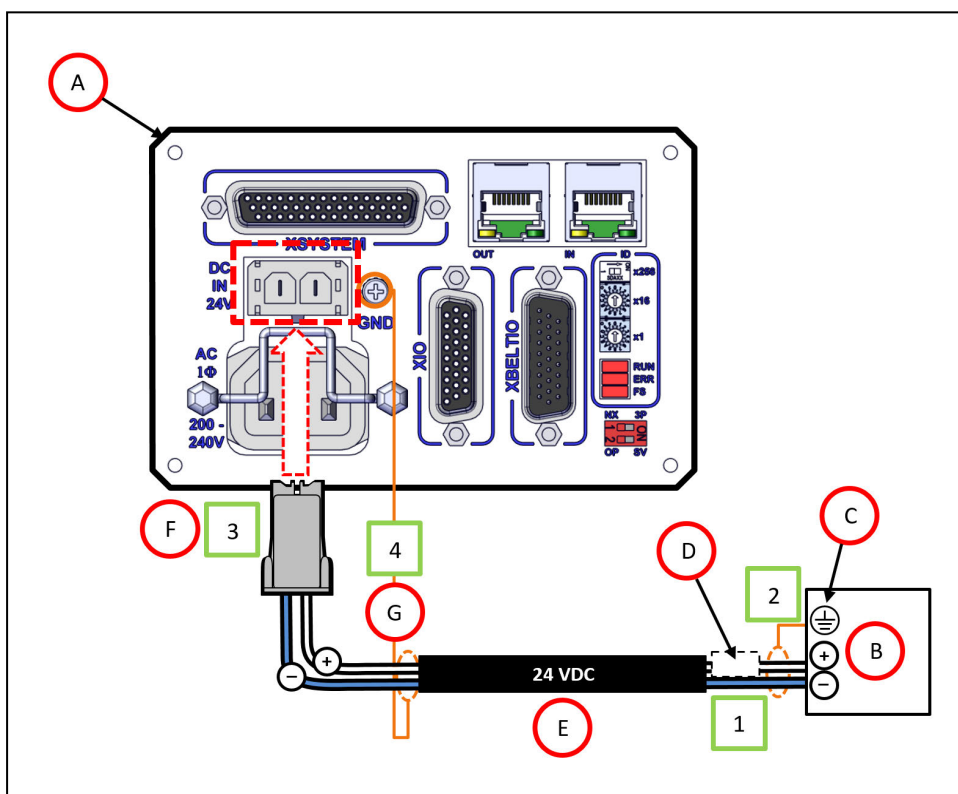

Figure 4-10. User-Supplied 24 VDC Cable, Power Supply
The 24 VDC output must be less than 300 W peak or 8 Amp (max) in-line circuit protection must be provided for each connected robot. Refer to (D) in Figure 4-10. .
2. Connect the cable shield (D) to frame ground on the power supply (C).
3. Plug the mating connector end of the 24 VDC cable (F) into the 24 VDC connector on the robot interface panel (A).
4. Connect the cable shield (G) to the ground point on the robot interface panel (A).